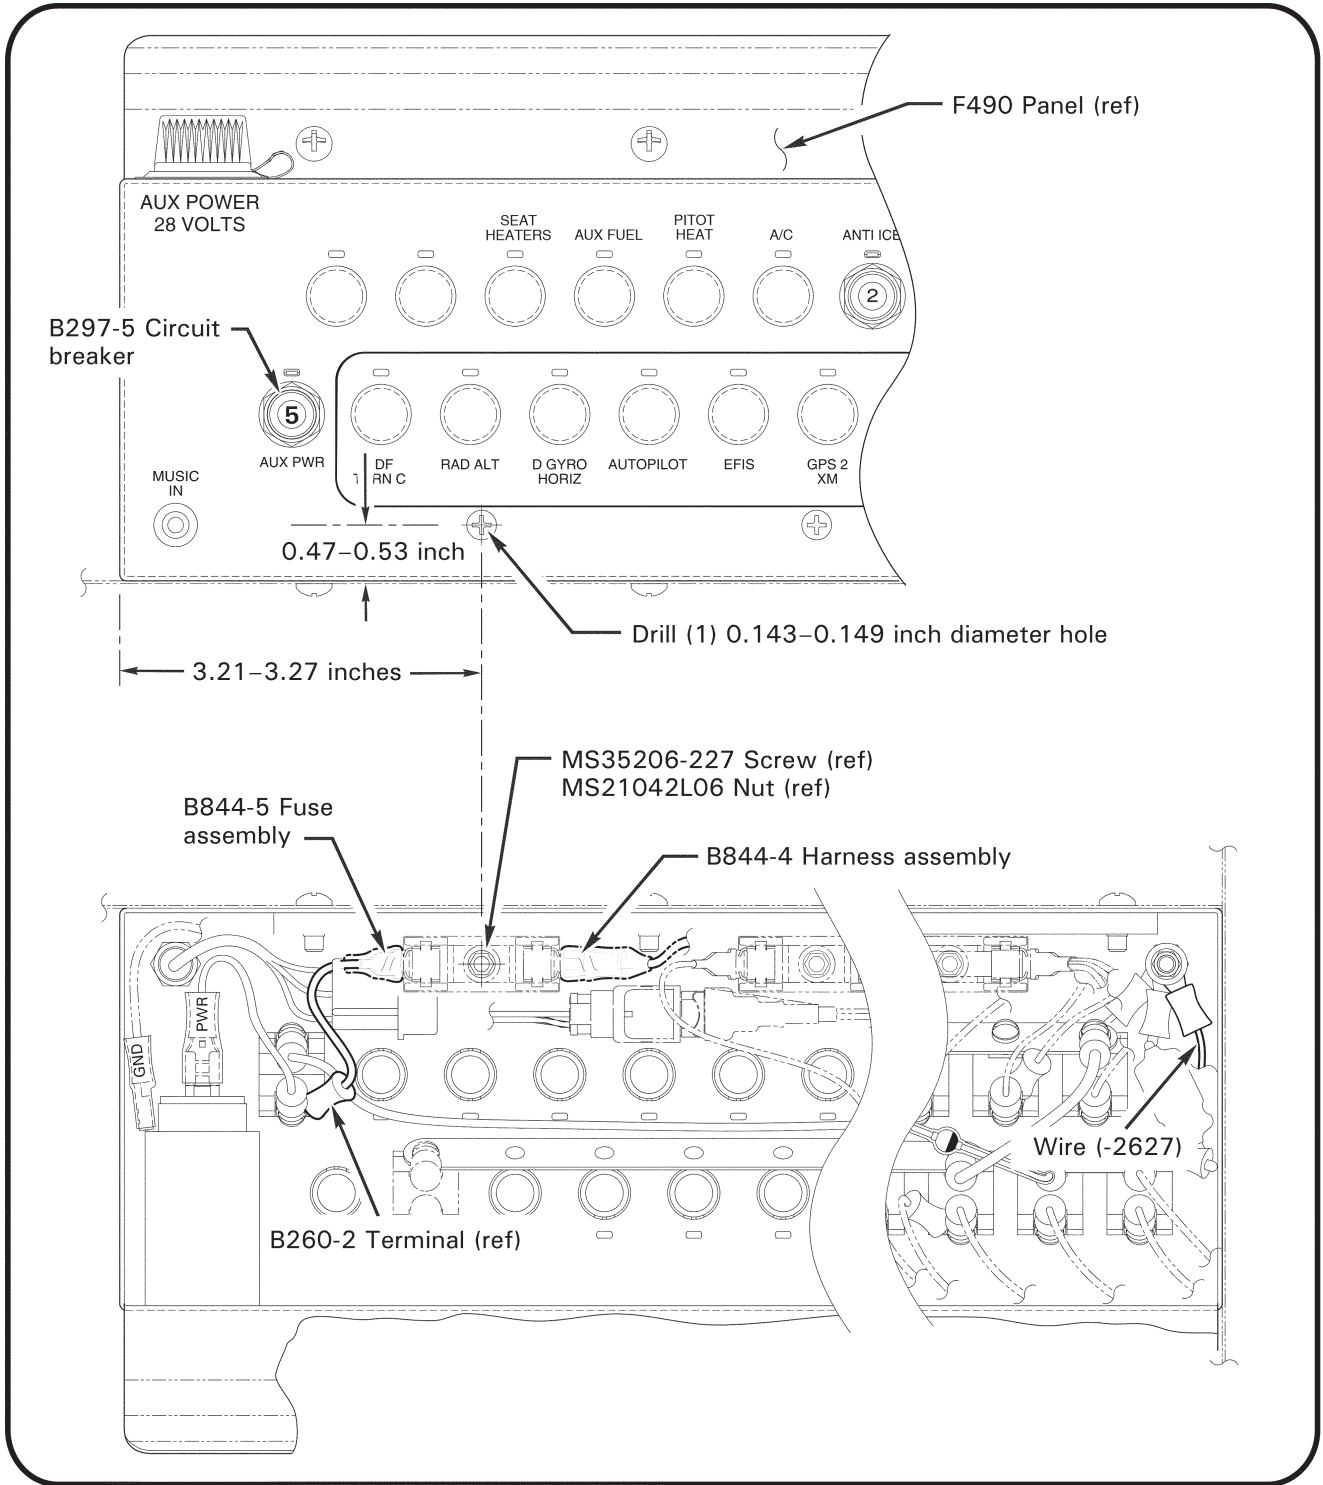

FIGURE 1 B844-5 Fuse assembly installation
- a. Refer to Figure 1. Open circuit breaker panel. Lay out location for 0.143–0.149 inch diameter hole on F490 panel as shown. Verify adequate clearance on reverse side then drill 0.143–0.149 inch diameter hole using drill stop. Deburr hole and clean up debris. Install B844-5 fuse assembly using MS35206-227 screw, NAS1149FN616P washer under screw head, and MS21042L06 nut (parts supplied with fuse assembly).